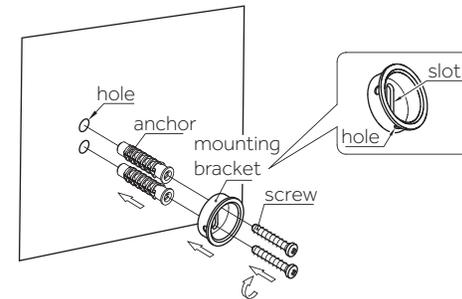

Figure 2
3. Drill a pilot hole into the wall at each marked mounting hole location (Figure 2).
4. Insert one of the provided anchors into each of the drilled holes (Figure 2).
5. Fasten the mounting bracket to the wall using the provided screws (Figure 2).